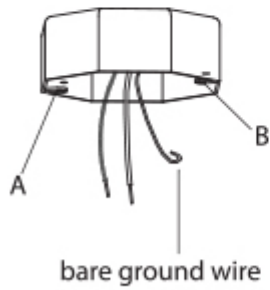
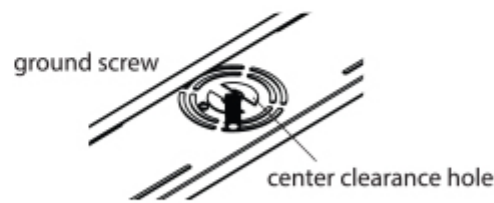

Figure 4
Figure 5
5. Next, affix your electrical box's (bare) ground wire to a metal component to effectively ground the unit. For metal electrical boxes, screw on the (bare) ground wire directly to the electrical box. For plastic electrical boxes, after attaching the mounting bracket to the ceiling (steps 6-7) screw the ground wire to the canopy's mounting bracket with the provided ground screw. (Figure 4)
6. Feed the other two wires from your electrical box through the center clearance holes of the mounting bracket. (Figure 5) Use the provided machine screws to screw the mounting bracket to the electrical box at points A and B. (Figure 4) Do not fully tighten screws.